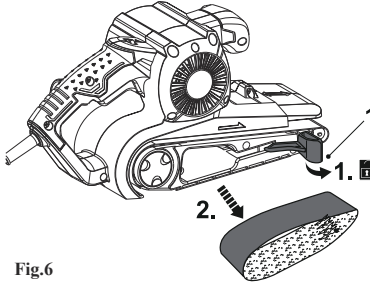

Fig.6
NOTE: arrows on the inside (1) of the sanding belt indicate the direction of movement (Fig.6). Sanding belts come in various types, from hard to soft. Choose the belt type depending on the material being processed.